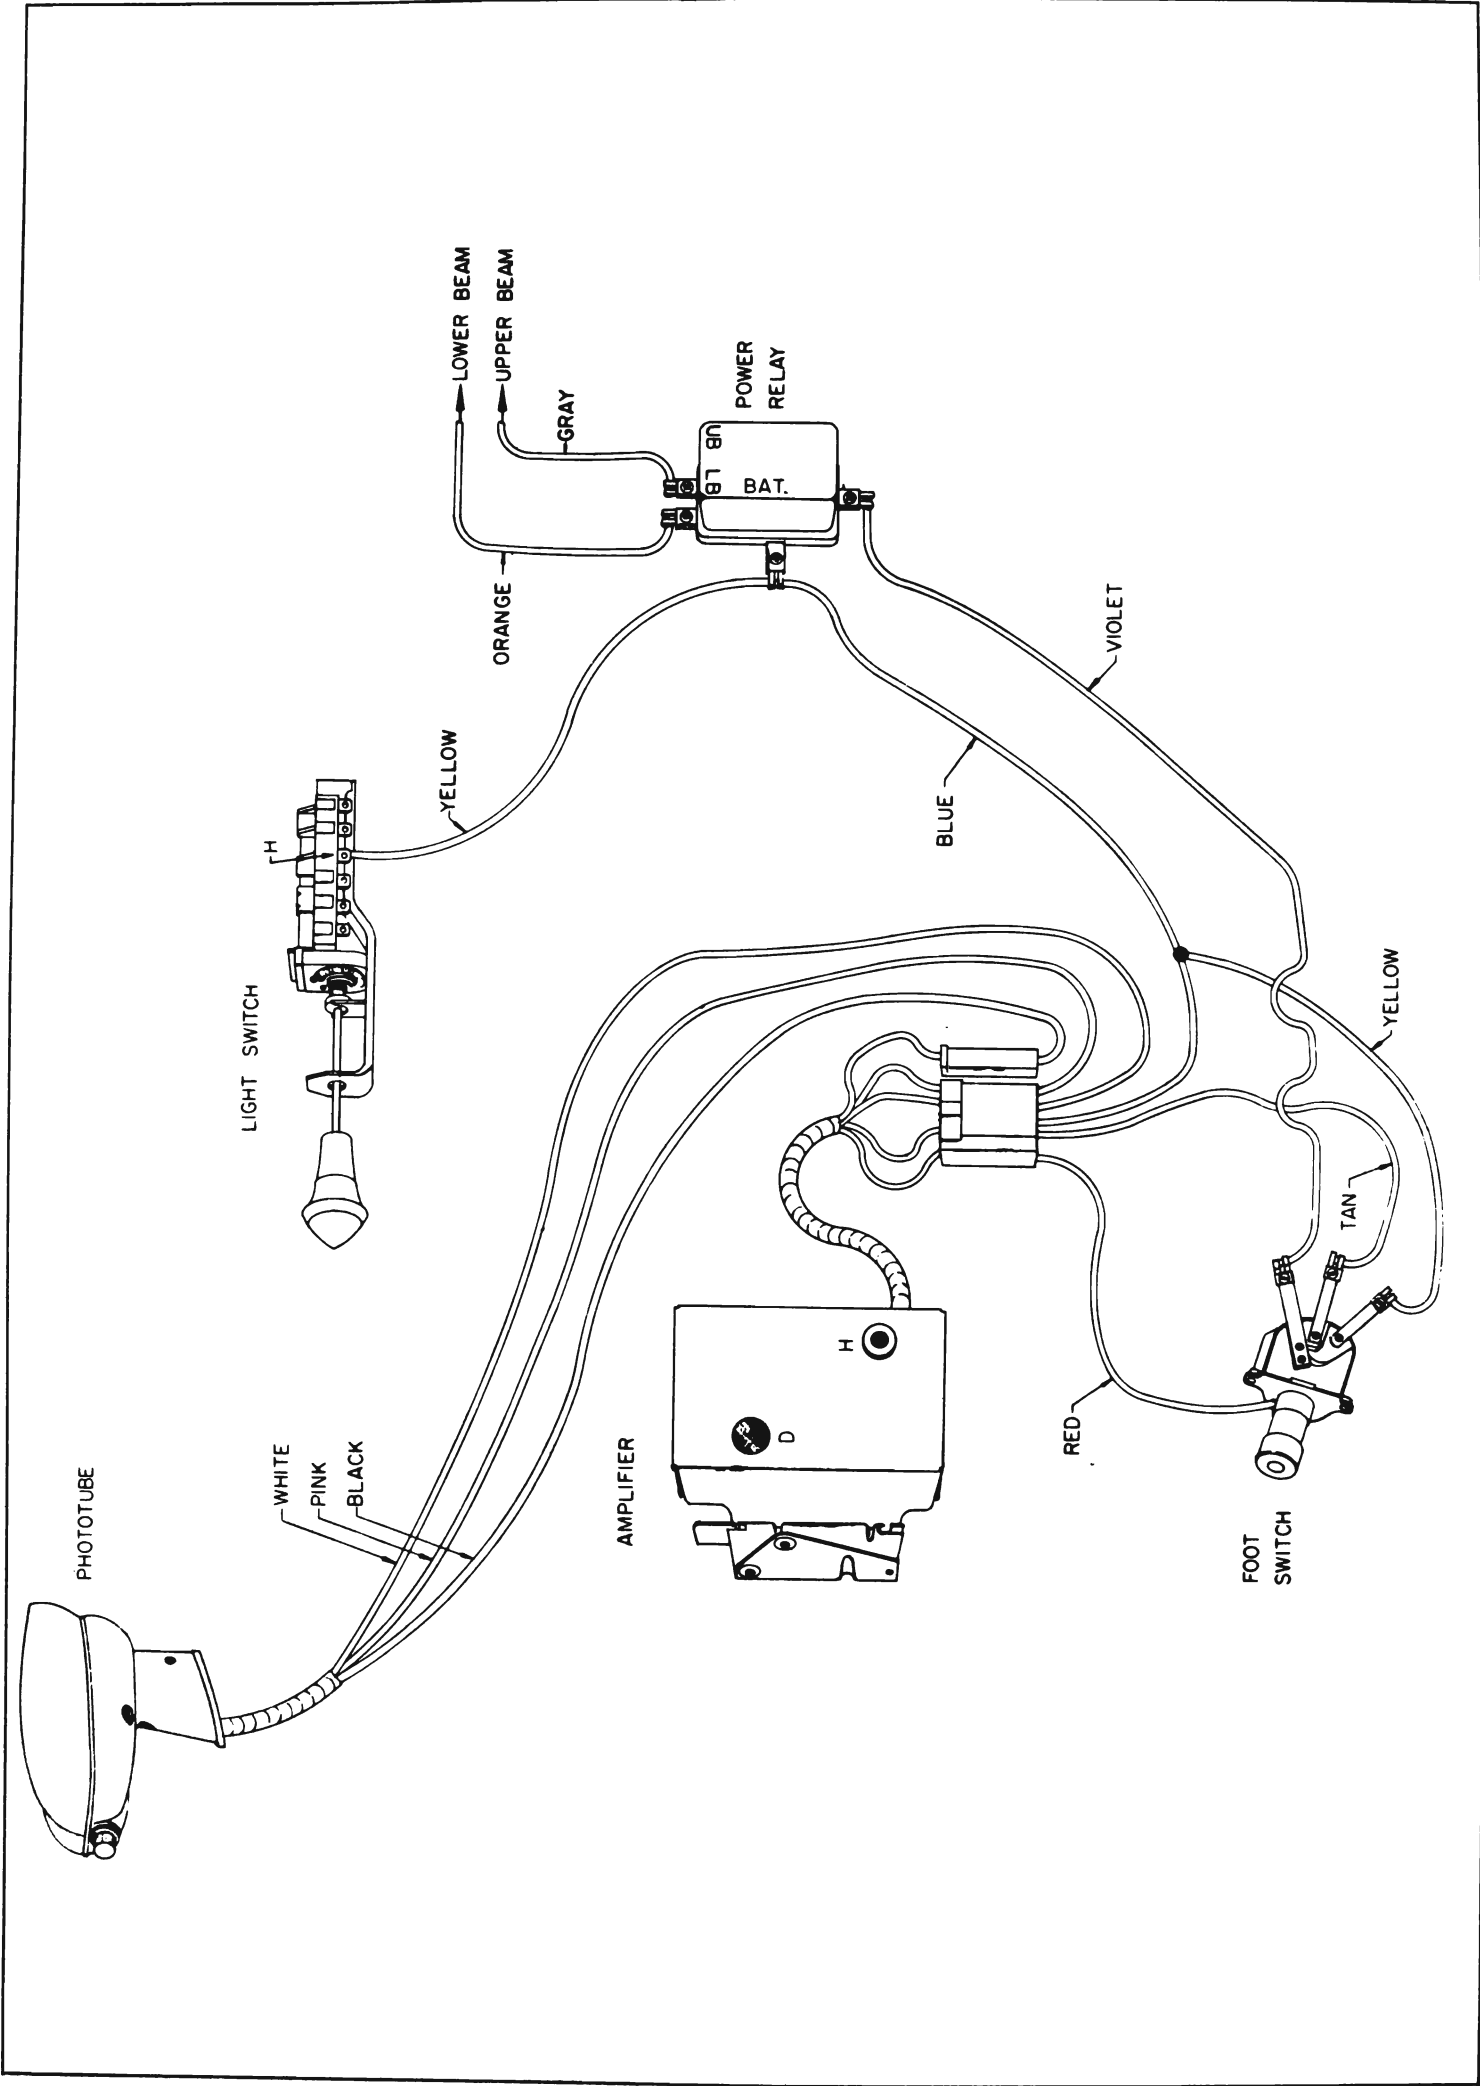

Figure 10-57—Autronic-Eye Circuit Diagram
The Autronic-Eye consists of four separate units: a power relay, a combination dimmer-override foot switch, an amplifier, and a phototube. See figure 10-57.
The power relay, mounted in the engine compartment, is a heavy duty relay which switches the headlamps between the upper and lower beams. It switches the headlamps to the lower beam when the relay control signal from the amplifier is of sufficient strength to actuate the relay (this circuit goes to ground in the relay). See figure 10-57. When the signal from the amplifier is too weak to actuate the relay, a spring in the relay switches the headlamps to upper beam.
special override section. The two regular positions are automatic and lower beam. The headlamps are controlled by the Autronic-Eye in the automatic position only; in the lower beam position, the headlamps are mechanically locked on the lower beam. See figure 10-57.
1. Make sure wires are properly connected. See figure 10-57.
1. Make sure wires are properly connected. *Violet wire must be connected to long terminal.* See figure 10-57.
(e) *Amplifier and Phototube.* If trouble was not in the power relay or in the foot switch, next make sure all wires are properly connected. See figure 10-57. If the Autronic-Eye still will not respond to the operational checks as described in step 2 above, the trouble must be in the amplifier or phototube. These two units should therefore be removed and sent to an authorized Autronic-Eye repair station.